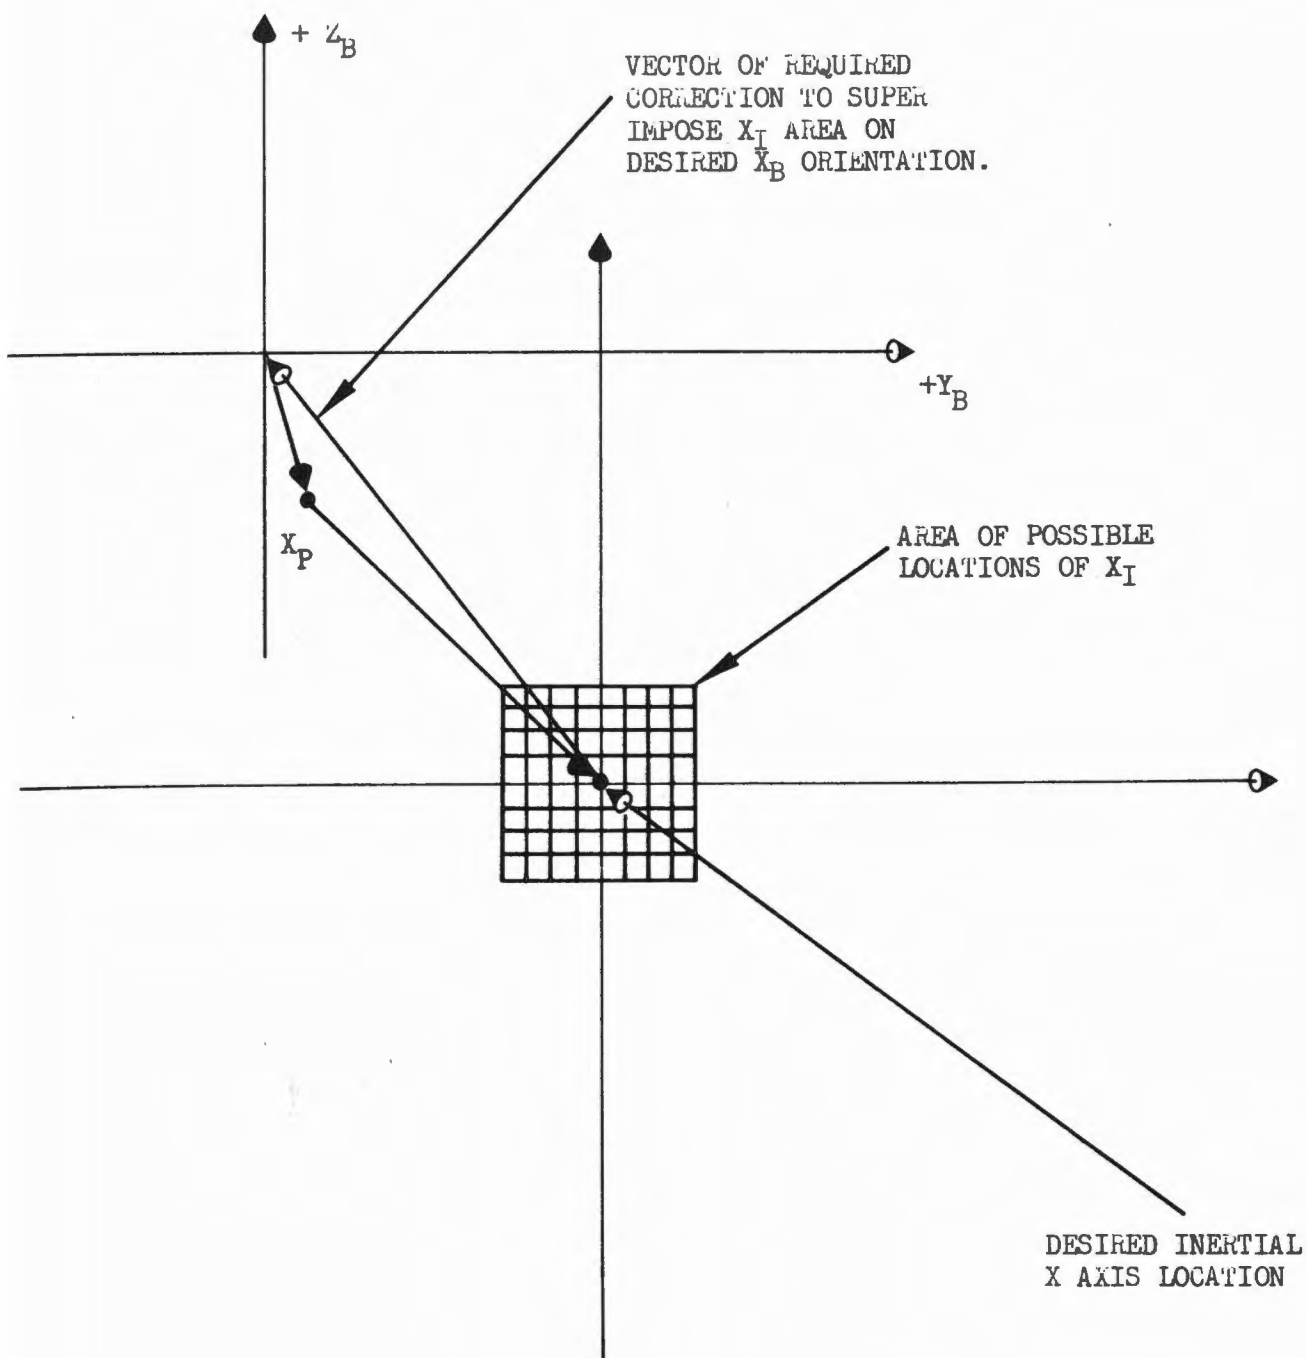

Figure 5-9. Optimization of Angular Momentum Vector Location Uncertainty
5.1.2.3.5 If the X_B axis is initially aligned away from the desired inertial hold axis in the (+ Z_B , - Y_B) quadrant the area of possible locations will now be superimposed over the desired inertial hold attitude (see Figure 5-9).
- b. Where a specific inertial attitude must be held for 1 hour (BMAG warmup time) or longer and the attitude accuracy requirements are between 22 degrees and 45 degrees the wobble mode can be used without offsetting the X_B axis as shown in Figure 5-9.
- c. When the accuracy requirement of (2) above lies between 14 degrees and 22 degrees, the method of alignment, including the compensation shown in Figure 5-9, should be applied.